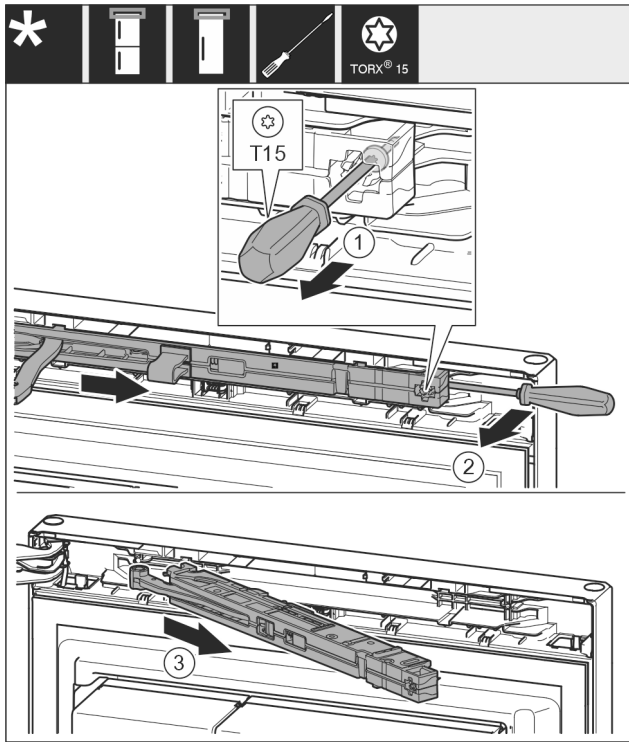

Fig. 10
- ▶ Undo the soft stop mechanism screw with a T15 screwdriver approx. 14 mm. Fig. 10 (1)
- ▶ Insert a screwdriver behind the soft stop mechanism on the handle side and rotate the unit forwards. Fig. 10 (2)
- ▶ Remove the soft stop mechanism. Fig. 10 (3)